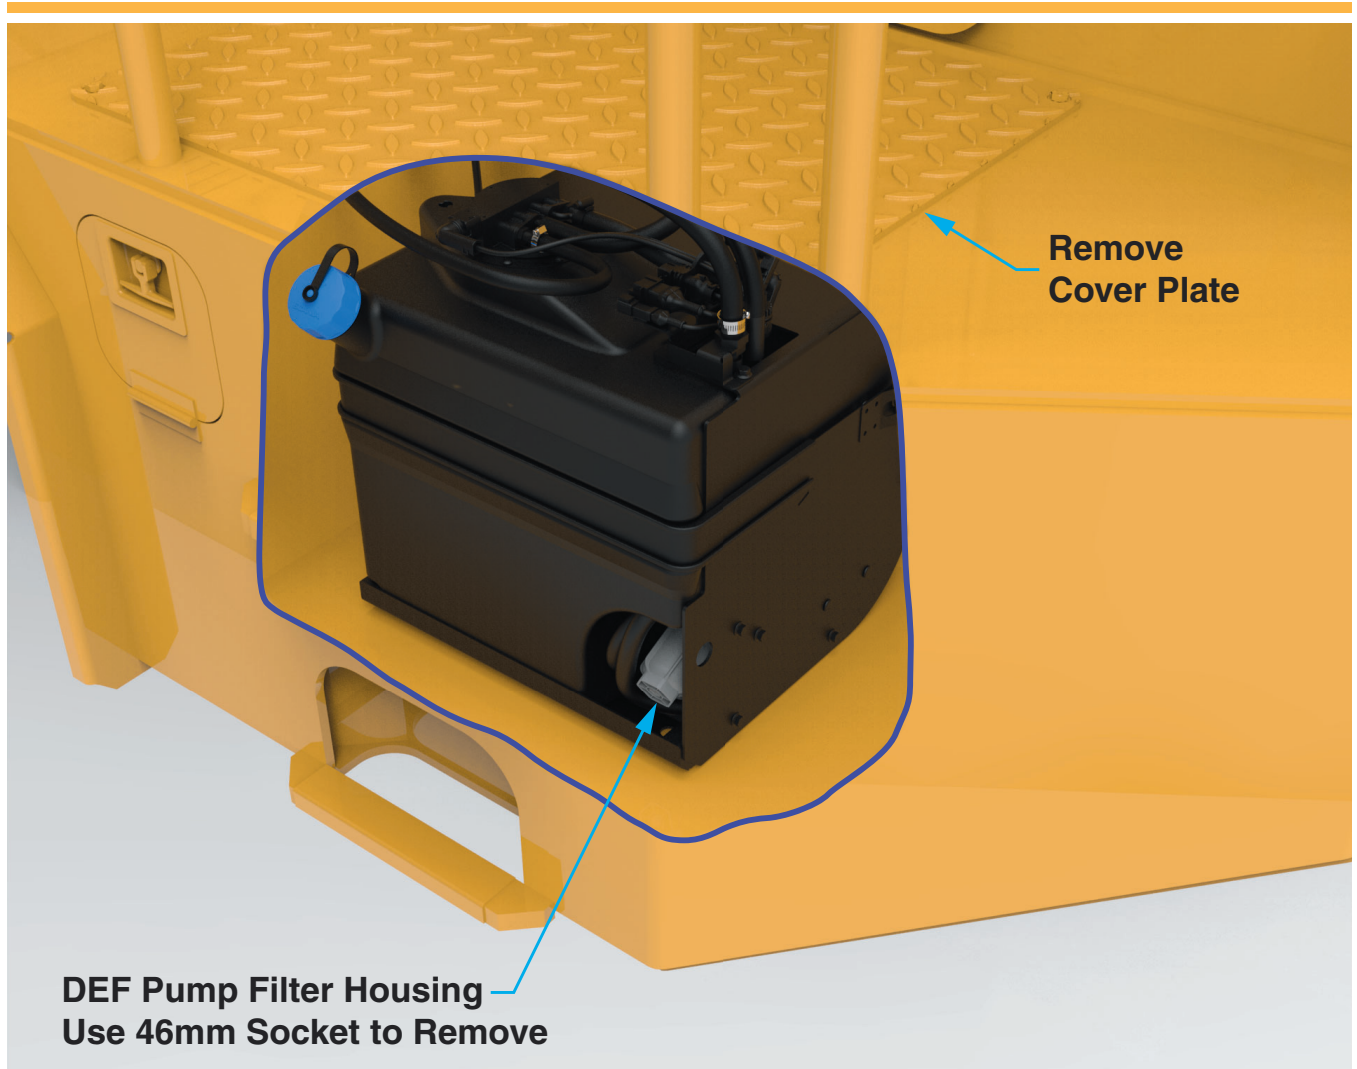

Figure 14 DEF Pump Filter Location
2. Clean the area around the horizontal cover plate on the left side of the chassis to prevent chips from falling into the DEF tank compartment. See Figure 14.